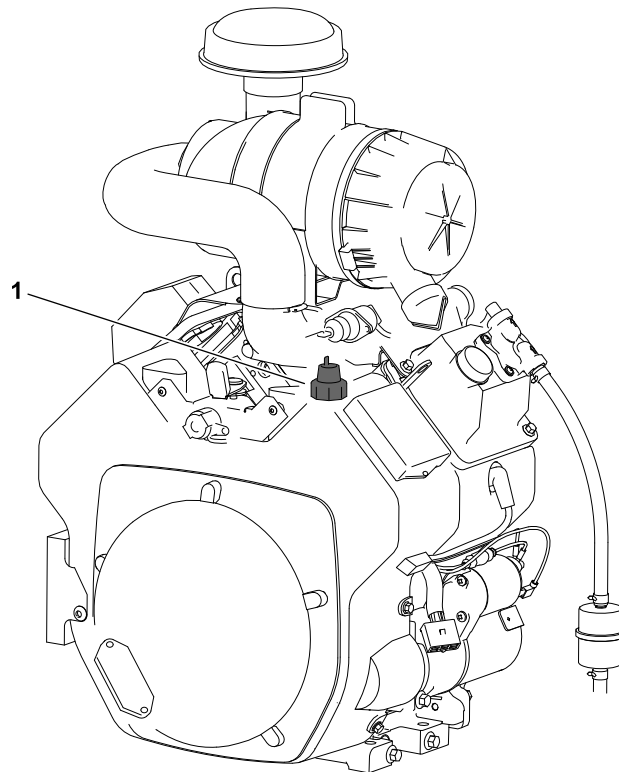

Figure 1
- C. Install the new engine oil pressure switch to the location shown in Figure 1; apply and torque the switch to 40 in-lbs (4.5 N·m).